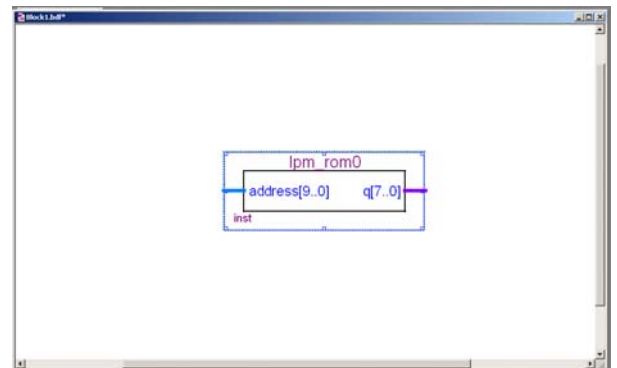

Figure 1: An lpm\_rom component.
8. Place your ROM device somewhere in your “.bdf” window. You should see something like Figure 1 when you try to place the component onto your schematic: